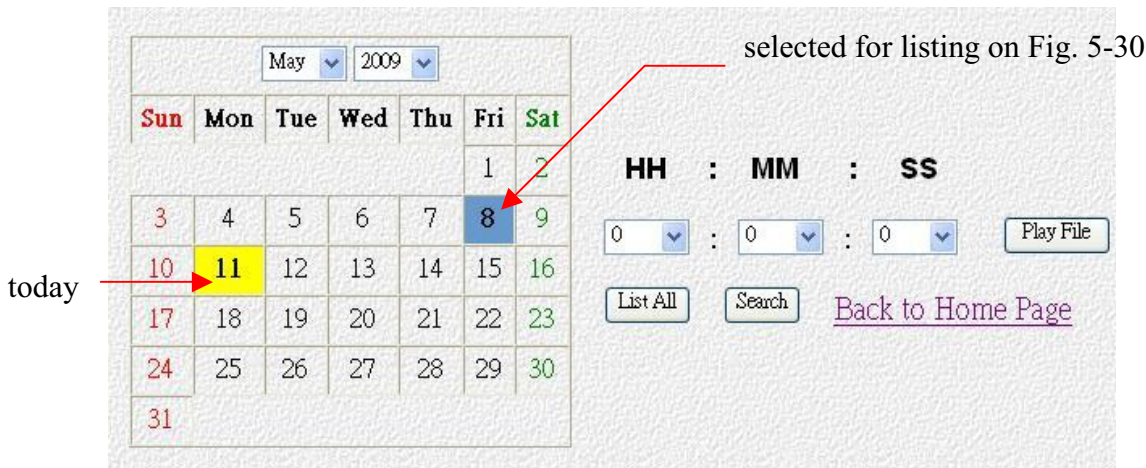

Fig. 5-37
Click “Playback” to bring up Fig. 5-37 with Fig. 5-38 follows. Click **List All** to display the entire list. There are some kinds of search :
1. By calendar – On Fig. 5-37, the yellow block is the date of today. The blue block is the date selected for listing of record files. On May 8th, there were actually 24 files. We just showed a few of them on the list.
- By search – On Fig. 5-37, click “Search” to bring up Fig. 5-40. You can query by “Start” / “Stop” time or by POS text. The search based on POS text is a kind of “Transaction” search. You can define the starting and ending text strings. There are 3 text fields to input searching strings in a “OR” combination. These features give you “unique” results to find the records contain the videos of what you really want.